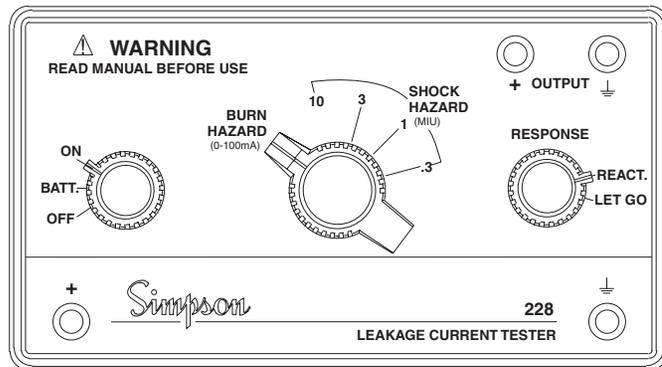

Figure 6
4. Turn Function Select switch to **BURN HAZARD** (see Figure 6, page 14).
1. Turn Function Select switch to **BURN HAZARD** (see Figure 6 below).